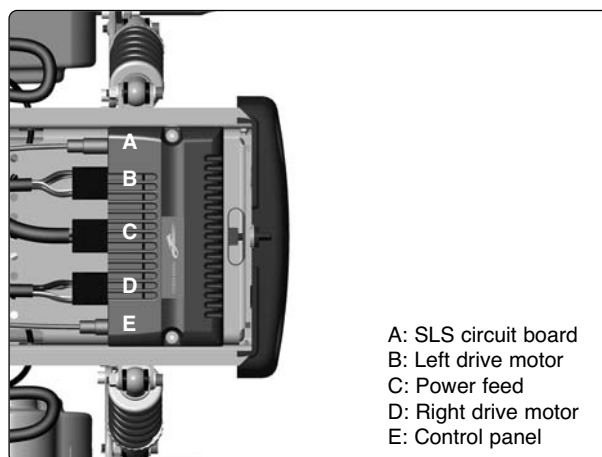

Fig. 64. Pilot+ controller cable connections.
4. Disconnect the electrical connections to the pilot+ controller, being attentive to their placement: see figure 64.